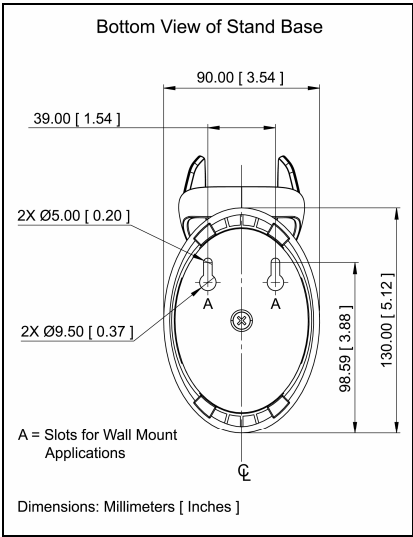

Figure 5.
- 3. Locate the two slots marked as "A" on the stand base in *Figure 5*.